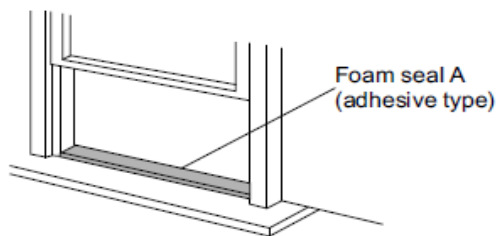

Fig. 10
2. Cut the foam seal (adhesive type) to the proper length and attach it to the bottom of the window. Fig. 10.